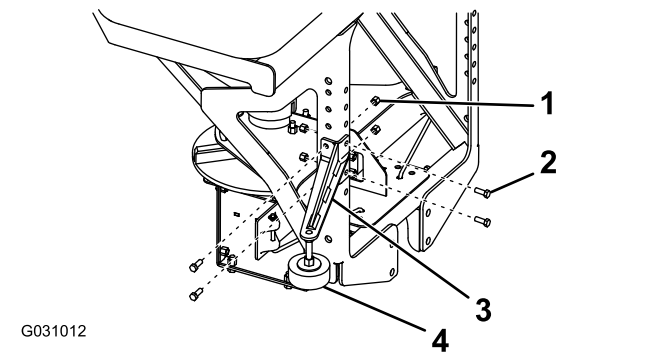

Figure 7
4. Attach the stabilizer arms to the spreader frame using 8 bolts (3/8 inch) and 8 locknuts (3/8 inch), and torque the bolts to 27 Nm (19.7 ft-lb) as shown in Figure 7.
- Rotate the pads on the stabilizer arms until they are tight against your truck bumper and tighten the jam nut to secure them (Figure 7).
8. Attach the stabilizer arms to the spreader frame using 8 bolts (3/8 inch) and 8 locknuts (3/8 inch) and torque the bolts to 27 Nm (19.7 ft-lb) as shown in Figure 7.
9. Rotate the pads on the stabilizer arms until they are tight against your truck bumper and tighten the jam nut to secure them (Figure 7).